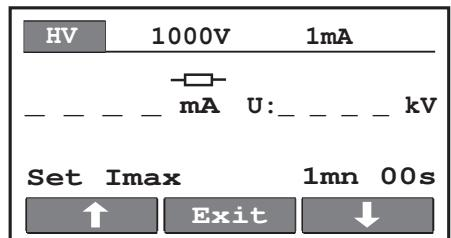

Fig.6. Menu for selection of tripping out current
■ Tripping out current (fig. 6)